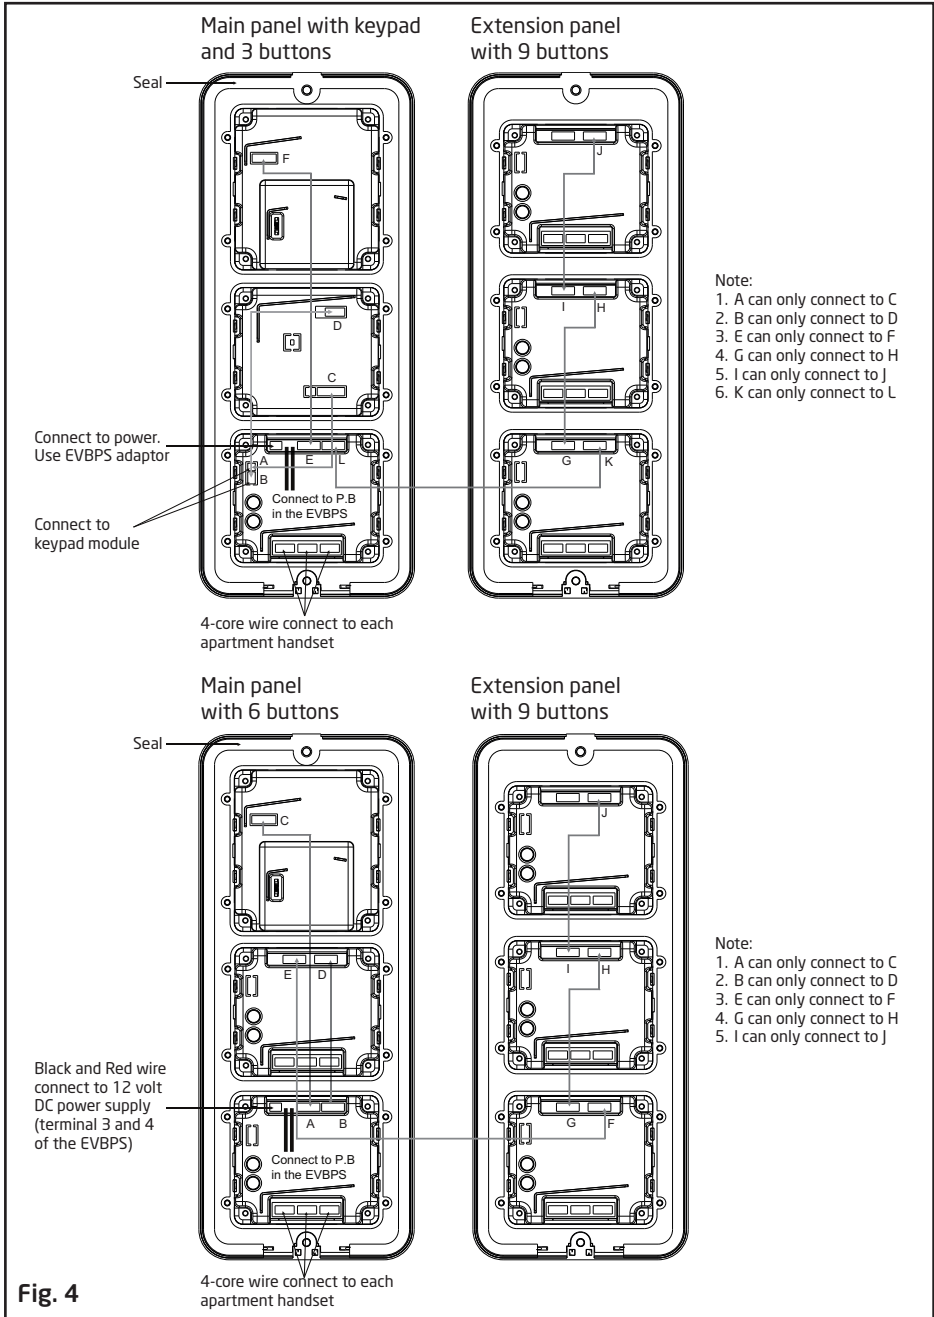

Fig. 4
- To power the camera, keypad and call station a 12 volt DC feed is required. To do this a white two pin plug consisting of red and black cores supplied should be connected to the corresponding cable going to the EVBPS power supply. Connect to terminals 3 and 4 (DC 12V) in the EVBPS Fig. 3. Fit the white plug into the white 2 pin socket located at the lower part of the door station Fig. 4.